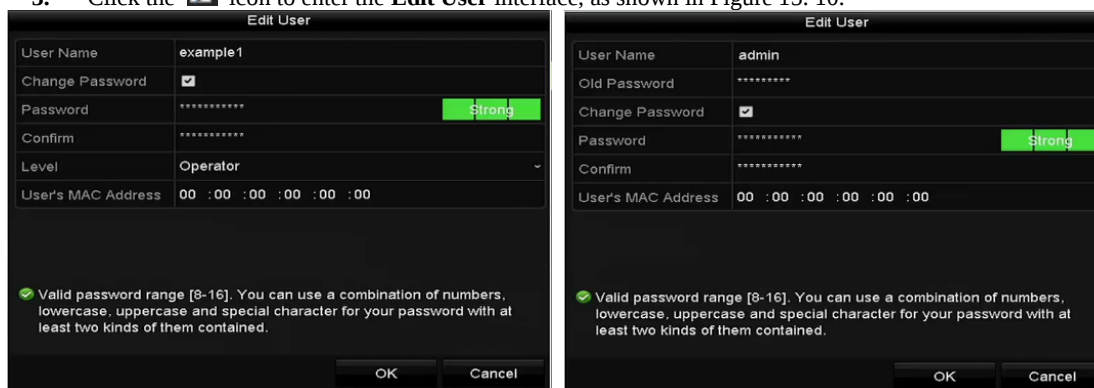

Figure 15. 10 Edit User Interface
3. Click the  icon to enter the **Edit User** interface, as shown in Figure 15. 10.